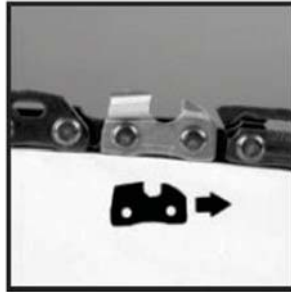

Fig.3
- Place the chain (1) in the groove of the bar (2), pay attention to the correct running direction, as shown by the running direction symbol (fig.3)